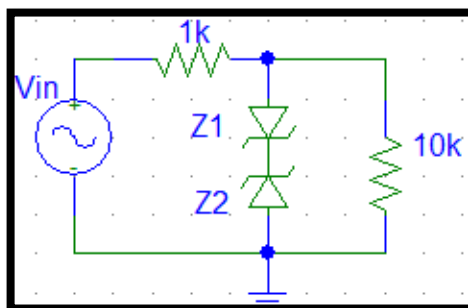

Figure 4: Zener Limiting Circuits with Resistive Load
- Will the output voltage change if a $10k\Omega$ Resistor is added in parallel, like in Figure 4?